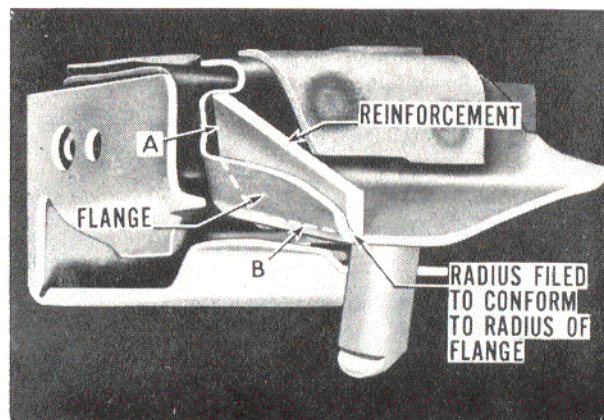

Fig. 5
port until surfaces "A" and "B" of reinforcement (fig. 5) are flush against the support.
6. Grind or file a radius along one edge of the reinforcement as shown in Figure 5.